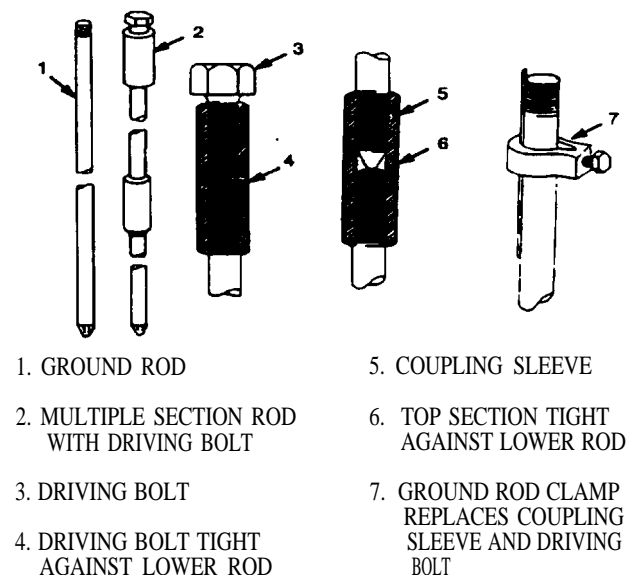

Figure G-2.
*b. Dry Soil Conditions.* In dry soil, use a multiple-section rod, such as NSN 5975-00-627-1552 or NSN 5975-00-878-4868, as shown in figure G-2. Drive the rod deep enough to reach moist subsoil. If there is no moist subsoil or the soil won't allow deep penetration, drive the rod as deeply as you can, then add salt and water as described in paragraph G-5.